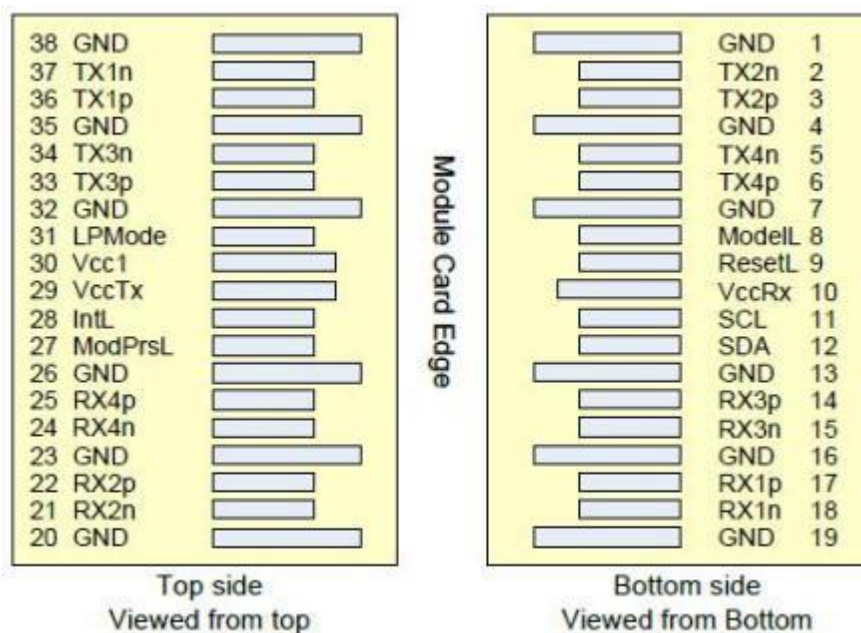

Figure 3. Electrical Pin-out Details
2. VccRx, Vcc1 and VccTx are the receiving and transmission power suppliers and shall be applied concurrently. Recommended host board power supply filtering is shown in Figure 3 below. VccRx, Vcc1 and VccTx may be internally